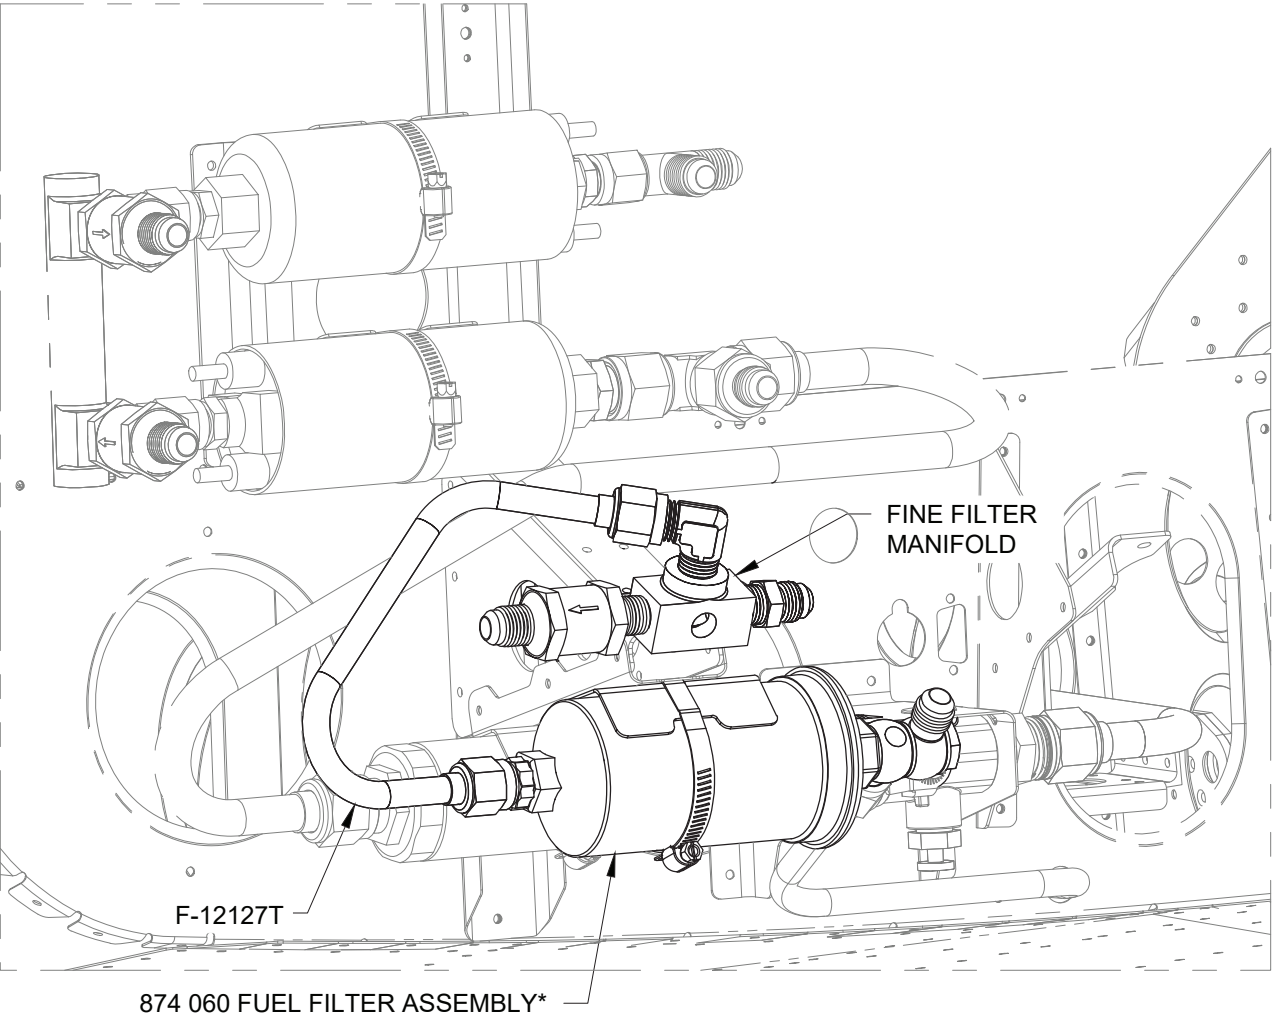

FIGURE 2: F-12127T FUEL PRESSURE TO FINE FILTER INSTALLATION
Step 4: Attach the F-12127T to the 874 060 Fuel Filter Assembly* and the Fine Filter Manifold as shown in Figure 2. A small amount of bending/adjustment by hand is acceptable.